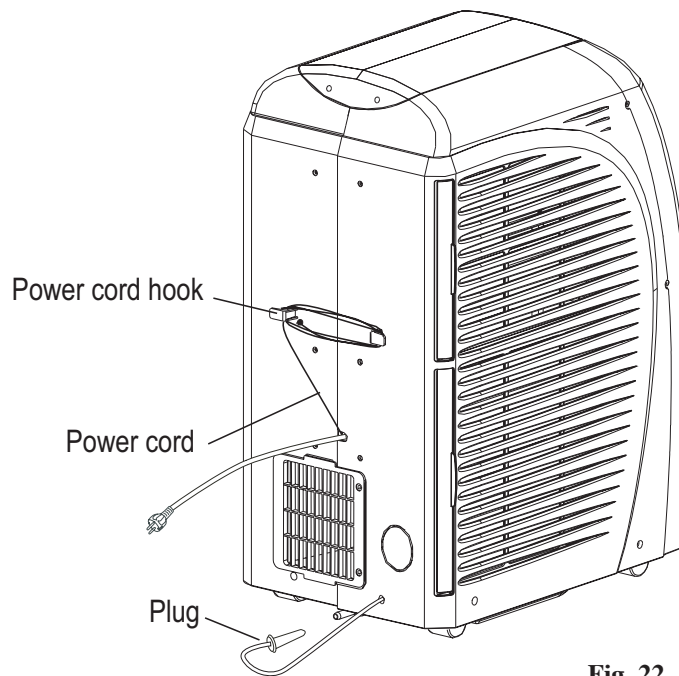

**Fig. 21**
- Slide out the air filter from the side as shown in Fig.21.